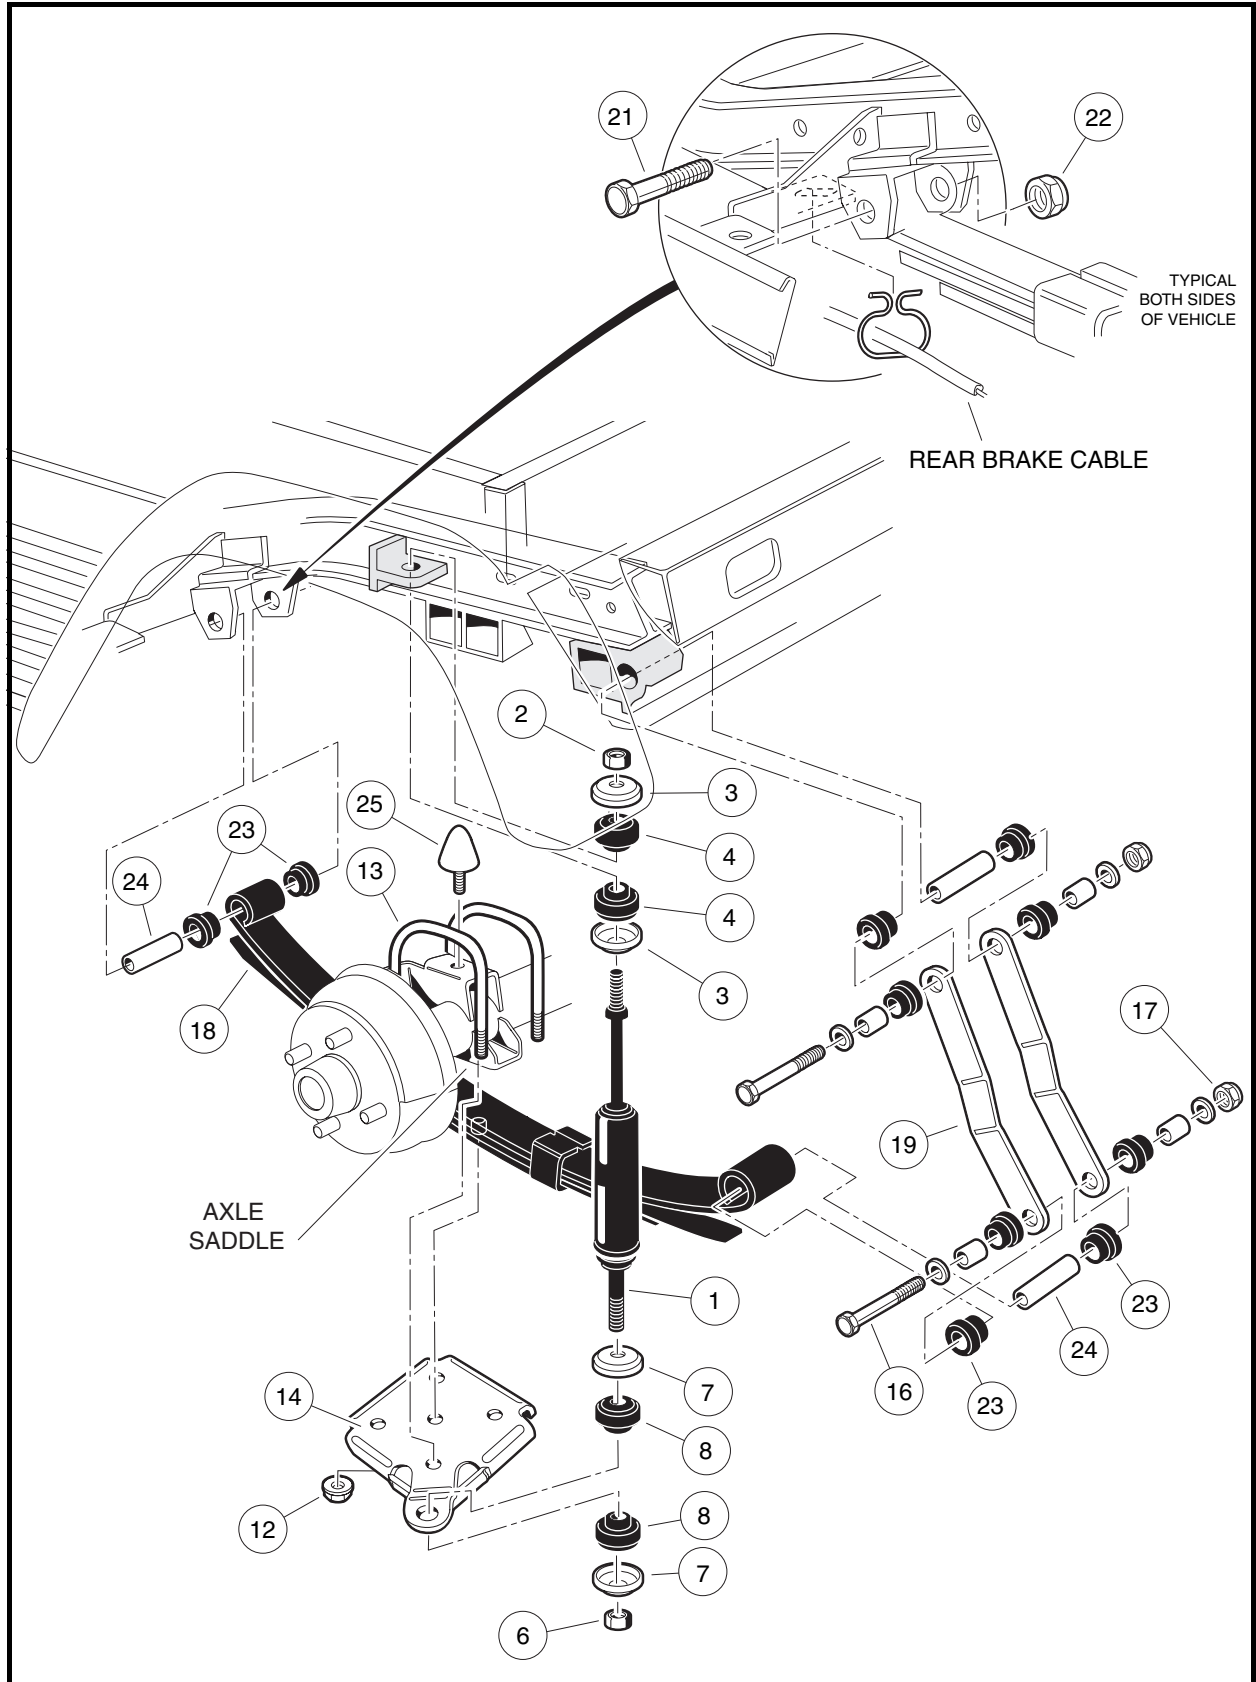

Figure 9-1 Rear Suspension for MC012C-AS00 Transaxle
1. Check shock absorbers (1) for damage or fluid leakage around the housing and replace if necessary (**Figure 9-1, Page 9-2**).
2. Remove the nut (2), cup washers (3) and rubber bushing (4) from the upper shock absorber stem.
2. Tighten nut (2) until rubber bushings (4) expand to the same diameter as the cup washers (3) (**Figure 9-1, Page 9-2**).
3. Install mounting hardware and tighten the nut (6) until the rubber bushings (8) expand to the same diameter as the cup washers (7).
7. Remove the locknuts (12) attaching the U-bolts (13) to the shock mount bracket (14) (**Figure 9-1, Page 9-2**).
8. Remove bolt (16) and locknut (17) attaching the leaf spring (18) to the rear shackles (19).
9. Allow rear of leaf spring (18) to rest on the ground and remove the bolt (21) and locknut (22) attaching the front of the spring to the vehicle frame. Remove spring from vehicle.
10. Inspect the rubber bushings (23) and steel sleeves (24) in the spring eyes and replace them if they are worn or damaged.
1. Install rubber bushings (23) and steel sleeves (24) into leaf spring eyes (**Figure 9-1, Page 9-2**).
2. Place front of leaf spring (18) into front mounts and insert grade-eight bolt (21) through mount and leaf spring eye. Attach locknut (22) and tighten to 15 ft-lb (20.3 N·m). See following **CAUTION**.
3. Align opposite end of leaf spring with spring shackles (19). Insert bolt (16) through shackles and leaf spring eye. Attach locknut (17) and tighten to 15 ft-lb (20.3 N·m). Lower transaxle onto leaf spring (18) (Figure 9-1, Page 9-2). See following CAUTION.
- When placing transaxle on spring, be sure to position locating bolt on the spring in the center locating hole in the axle saddle (Figure 9-1, Page 9-2).
4. Install shock mount bracket (14) onto locating bolt of leaf-spring.
5. Install U-bolts (13) and locknuts (12) and tighten locknuts in a crisscross pattern to 35 ft-lb (47.5 N·m).